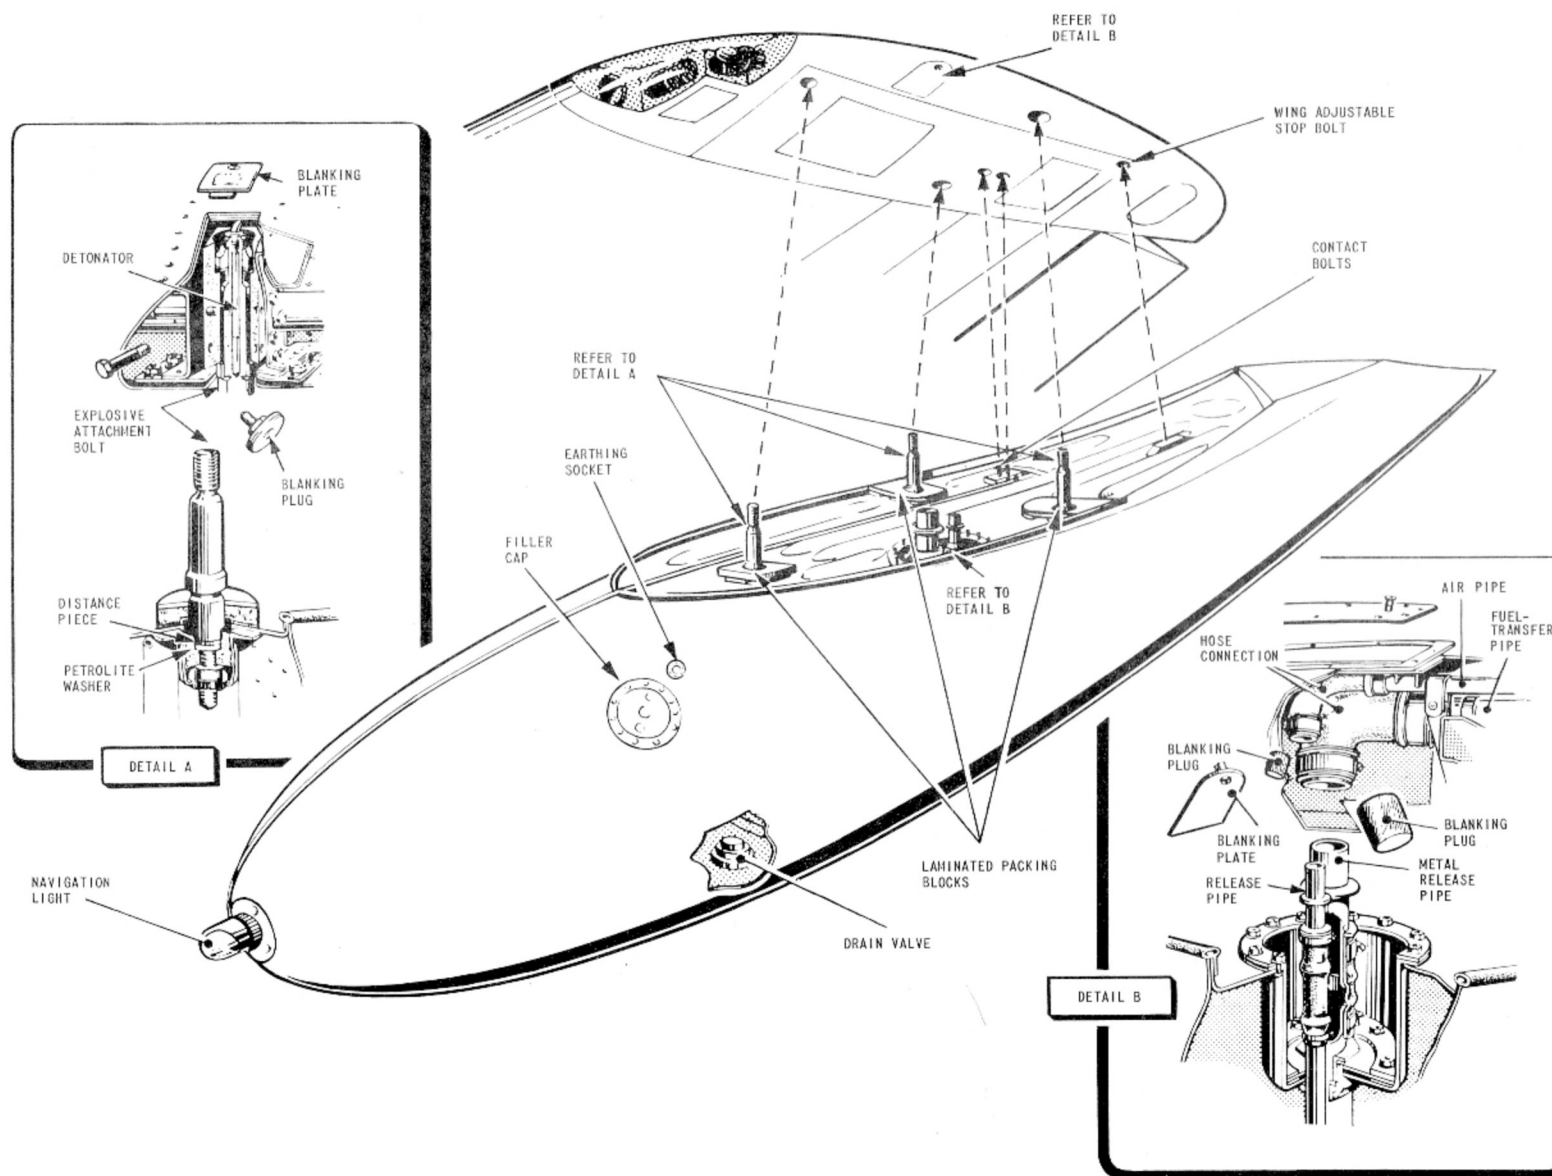

FIG. 6. WING - TIP TANK FITTING (FERRYING ONLY)
**Wing-tip tanks (ferrying only) (fig.6)